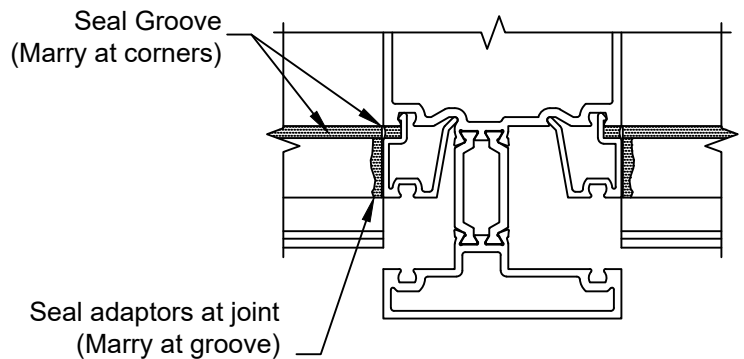

FIGURE 35
- A.2 Install horizontal adaptors maintaining an equal gap at each end. Once all adaptors have been installed in the opening, seal all corner joints. Run a bead of sealant in the groove formed between the adaptor and mullions. This seal must be continuous around the opening and must marry with the seal at the corner joints. **SEE FIGURE 35.**